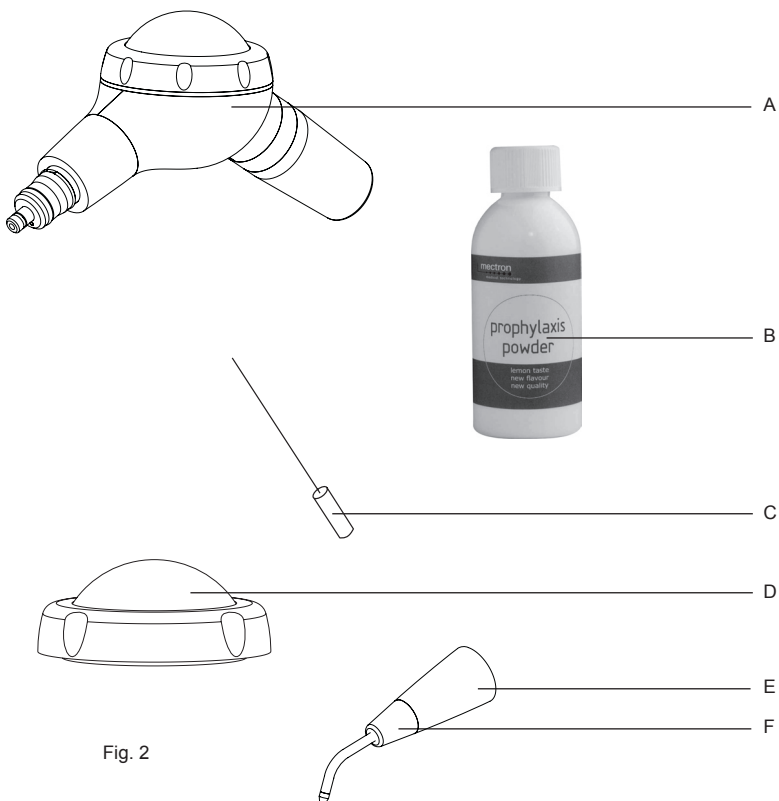
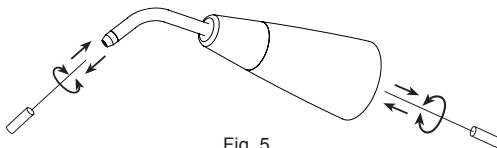

Fig. 2
Fig. 5
- 1 Body of the apparatus (Fig.2 - Ref.A).
- 1 Pack of prophylaxis powder (Fig.2 - Ref.B);
- 1 Needles for cleaning the front terminal of the polisher (Fig.2 - Ref.C).
- 1 Spare Easyjet pro cap (Fig.2 - Ref.D);
- 1 Jet polisher handpiece head (Fig.2 - Ref.E);
- 1 Front terminal nose cap (Fig.2 - Ref.F).
- 2 Use the cleaning needle supplied with the device to free the channel from any residues of powder (Fig.2 - Ref.C), carrying out the movements indicated (Fig.5). Blow compressed air into the central hole of the terminal from both ends, using the syringe.
- ⚠ **WARNING: Clean the channel of the nozzle using only the cleaning needle supplied with the device (Fig.2 - Ref.D).**
- 2 Free the channel from any residues of powder using the cleaning needle included in the supply (Fig.2 - Ref.C) carrying out the movements indicated (Fig.5). Blow compressed air into the central hole of the terminal from both sides with the syringe.
- 1 If the air passage in the front terminal gets clogged, it is sufficient to switch on the device for a few seconds and to use the needles included in the supply (Fig. 5) to free the channel from any residues of powder.